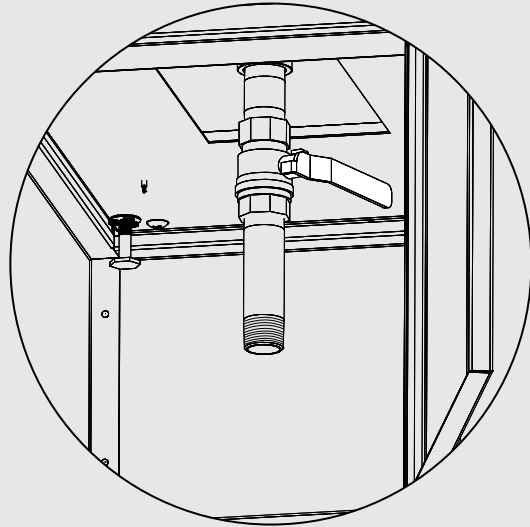

Figure 15
4. Close the ball valve securely before closing the base door. **(Figure 15)**